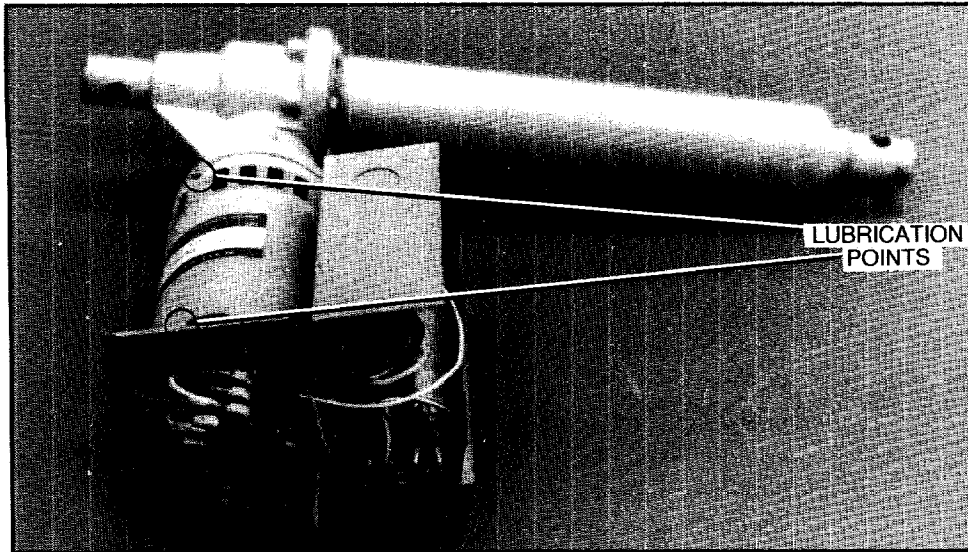

FIGURE 19 - Compressor Inlet Vane Actuator
2. Lubricate the actuator motor bearings by inserting a long nozzle into the lubrication ports on the actuator. See Figure 19. Several drops of SAE-20 oil, or equivalent, is sufficient.